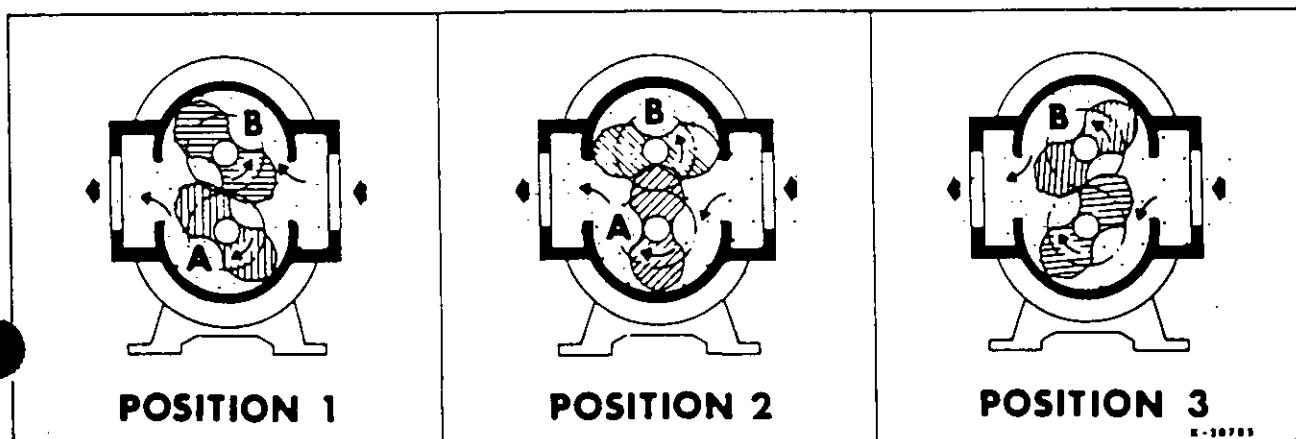

Figure 1 — Flow Through a Basic Type RAI Blower
Operation of the familiar basic rotary lobe blower is illustrated in FIGURE 1, where air flow is right to left from inlet to discharge with the bottom impeller rotating clockwise. In Position 1 it is delivering a known volume to the discharge, while space (B) between the upper impeller and cylinder wall is being filled. Counterclockwise rotation of this impeller then traps equal volume (B) in Position 2, and further rotation delivers it to the discharge in Position 3. At the same time, another similar volume is forming under the lower impeller, and will be discharged when rotation reaches Position 1 again.